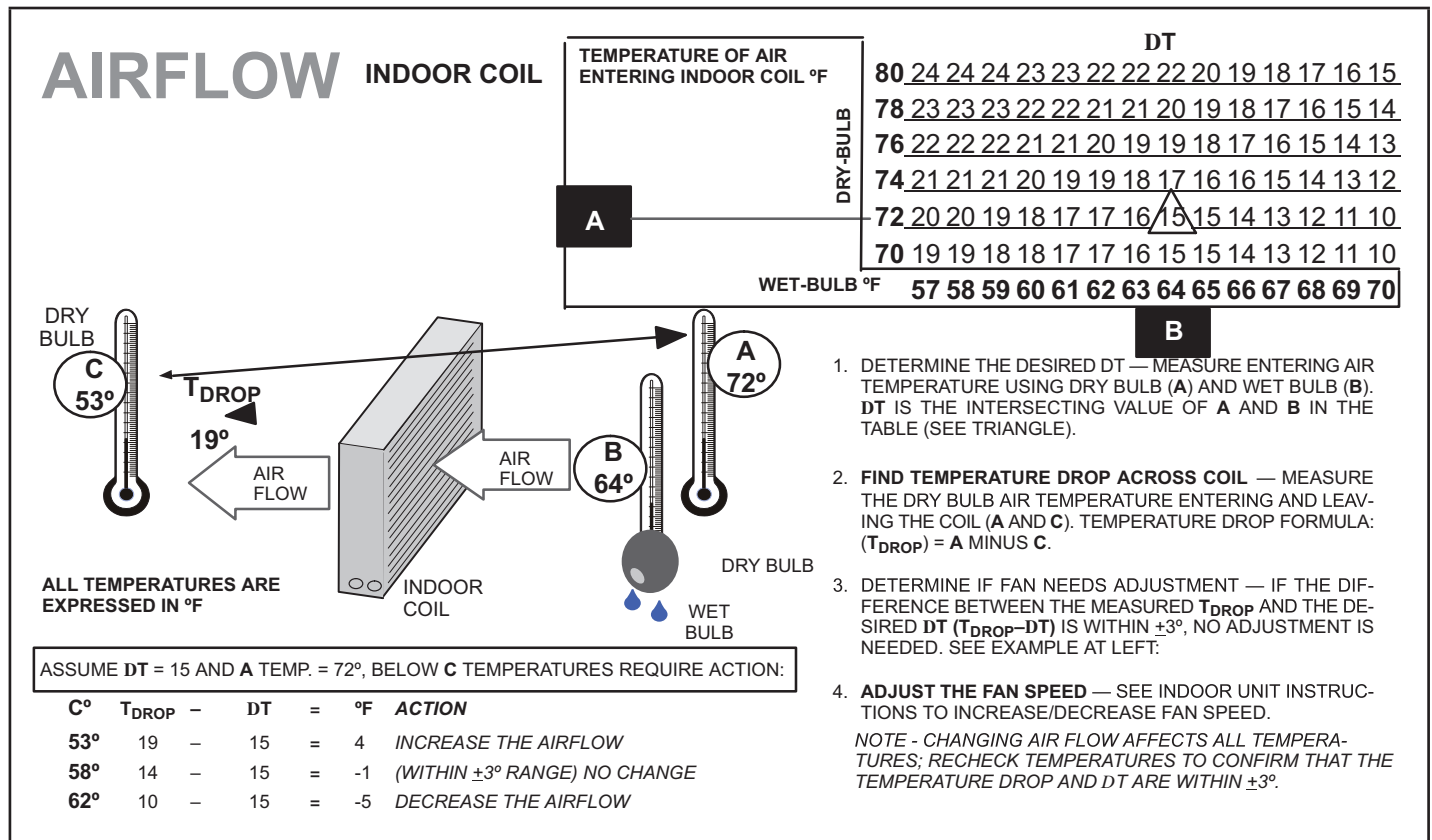

FIGURE 20. Checking Indoor Airflow over Evaporator Coil using Delta-T Chart
- 5 - Weigh in refrigerant using procedure outlined in figure 20.
This system uses HFC-410A refrigerant which operates at much higher pressures than HCFC-22. The pre-installed liquid line filter drier is approved for use with HFC-410A only. Do not replace it with components designed for use with HCFC-22. Check airflow using the Delta-T (DT) process using the illustration in figure 20.